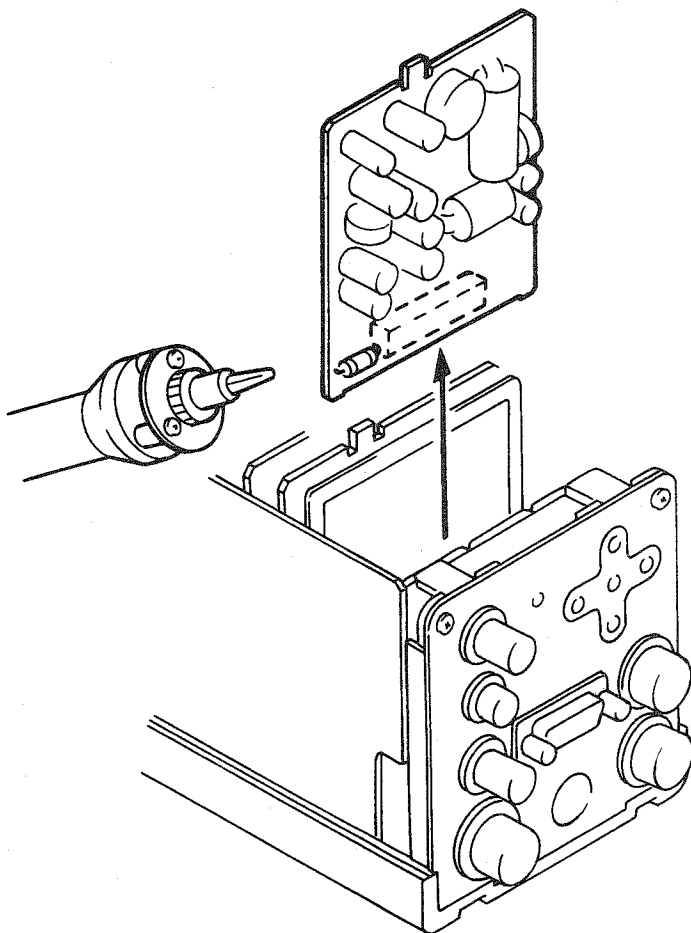

Fig. 7 Fuse replacement
- 2) Unsolder the leads of the fuse (F300) on the B side of the PS board, and remove the fuse from the A side of the PS board. (Fig. 7)